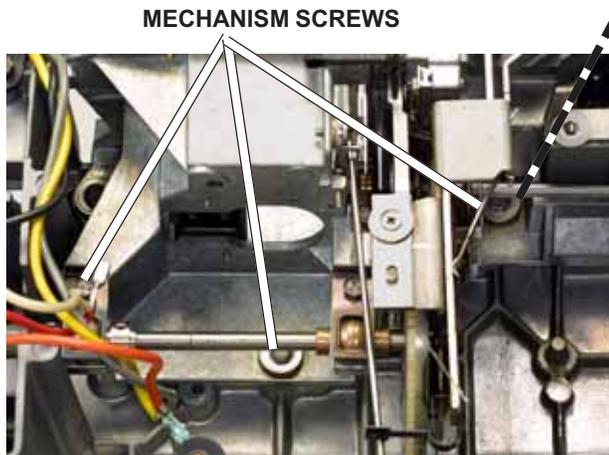

FIG. D32 Remove the three mechanism screws.
15. Use your 1/4" nut driver to remove the 3 screws holding the mechanism, Fig. D32. You need a thin-walled nut driver to reach the screw shown in Fig. D30.